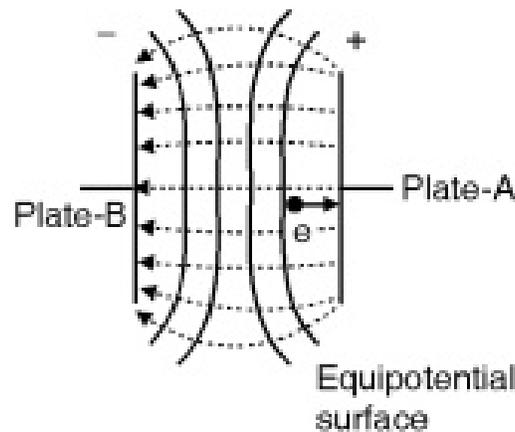

Fig. 7.7.1 : Electric field between two plates
- Consider Fig. 7.7.1 where an electron is at rest and placed in an electric field produced by two plates A and B.